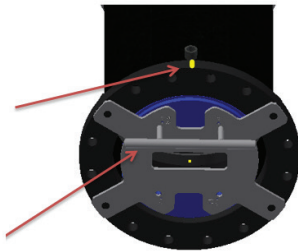

Figure 60
**NOTE:** If there is not already a mark on the insertion housing, make a line between the top 2 flange holes on the insertion housing. This line must be in line with the pipe for a proper installation (see Figure 60).